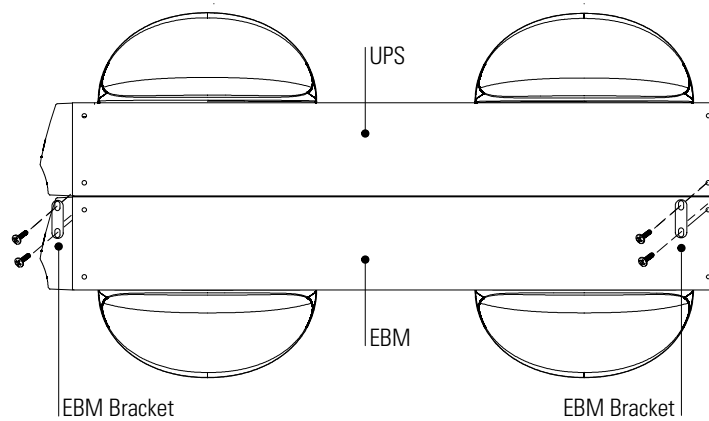

Figure 11. Installing the EBM Brackets (Top View with Pedestals)
9. Align each EBM bracket with the adjacent corner screw holes and secure with the supplied screws (see Figure 11).